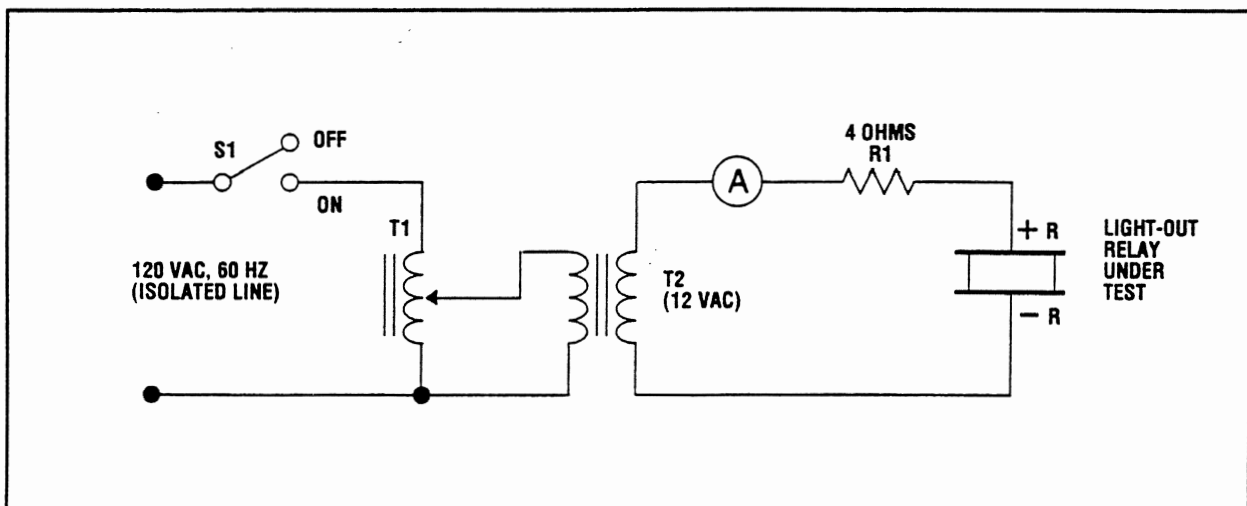

Figure 3-8. Lightout Relay, Test Setup
3.6.7.2 Lightout Relay Test Procedure. Connect test circuit, as shown in Figure 3-8, and proceed as follows: